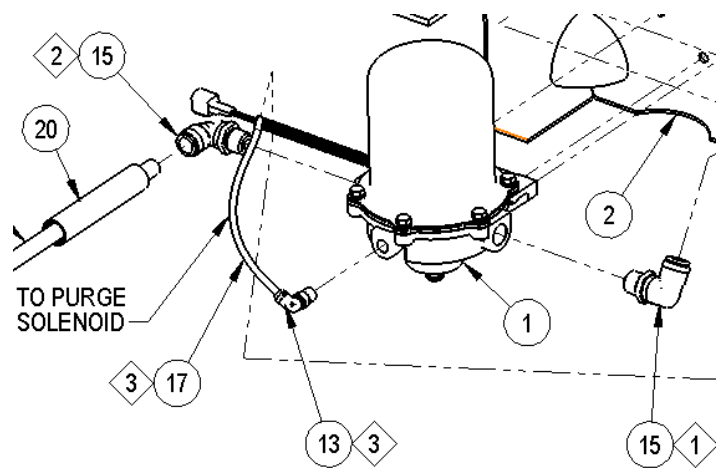

FIG. 3-1
9. Apply pipe sealer to both 3092-MM5-A12 (items 15), 90° elbow fittings and install in ports. Refer to FIG. 3-1. Tighten 2-3 turns from finger tight (T.F.F.T.).
10. Apply pipe sealer to 3092-MM5-A02 (item 13), 90° elbow fitting and install in port shown in FIG. 3-1. Tighten 2-3 T.F.F.T.